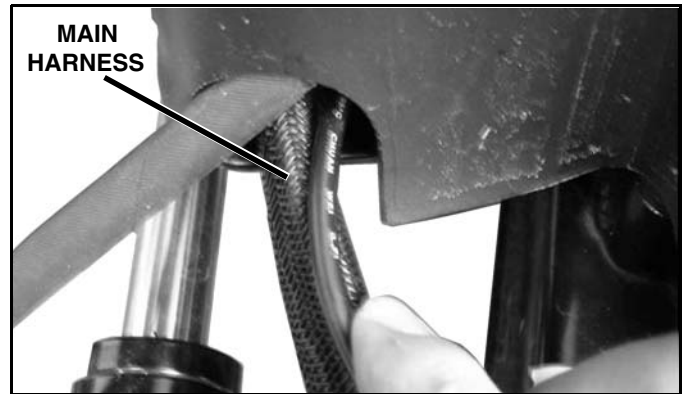
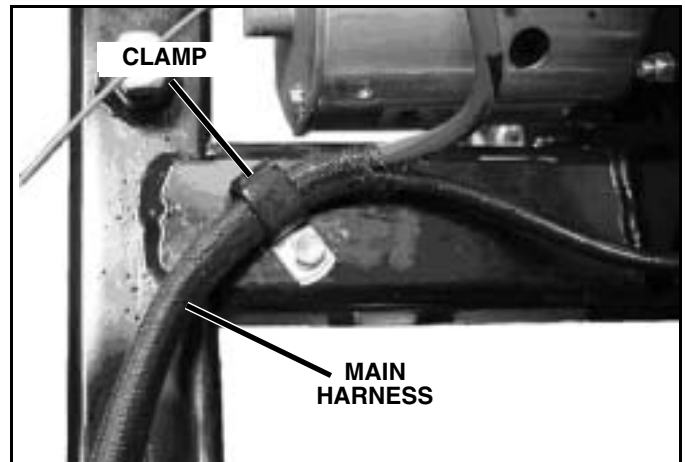

Figure 1-3a
Figure 1-3c
2. Run the 4 wire harness on the receiver unit over to the main power harness. Zip tie where necessary to the main power harness. Ensure the control wire harness is routed in the power harness clamp and continue running with the main power harness. Leave enough room to connect harness to vehicle harness. Ensure the cable is clear of pinch points and latching mechanism. Any excess cabling should be kept and zip tied under the pump cover. (See Figure 1-3a & 1-3b for 22, 26, 29/32 Series.) (See Figure 1-3c for MegaBlade Series.)